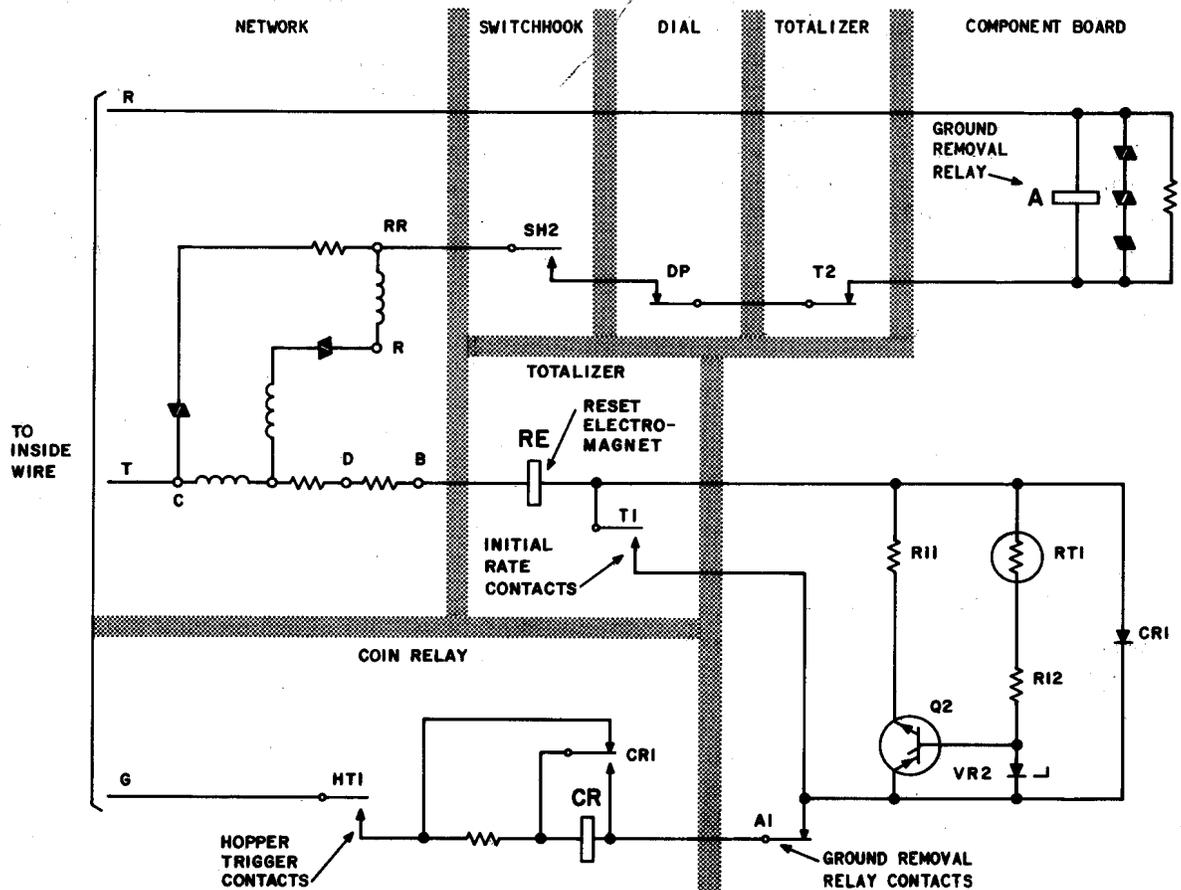

Fig. 14—Operating Paths of Ground Removal and Coin Relays in Single-Slot Coin Telephone Sets Modified for DTF
**C. TESTING THE SILICON CONTROLLED RECTIFIER IN SINGLE-SLOT SETS. (SEE FIG. 14)**
(c) Return the coin by operating the CR key to apply coin return potential to the tip to trigger the SCR. Failure to return the coin indicates a failure in the SCR or one or more of the circuit components paralleling the SCR. These items are shown on the component board, Fig. 14.